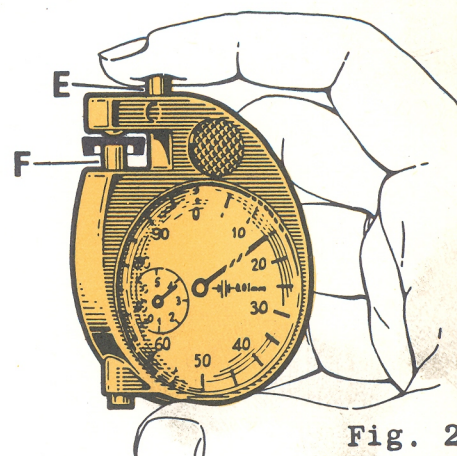

Fig. 2
- 2 Holding the dial gauge as shown at fig. 2 push button "E" until plunger "F" is fully lowered.
- 3 Put the adjusting pad on plunger as shown at fig. 2. Release plunger "F" and read the thickness of pad on dial bearing in mind that the larger scale shows hundredths of millimetres and the smaller scale millimetres.